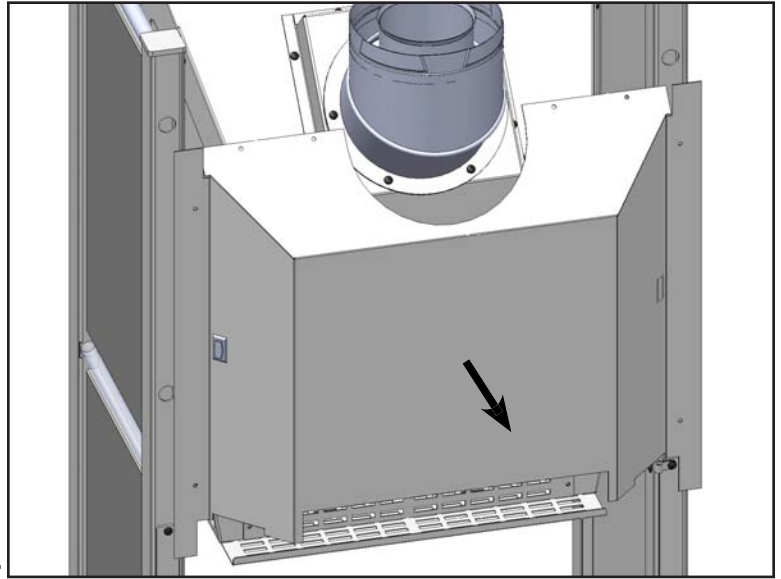

Fig.24
5. Rotate outer rear shield and place below such that the connected wires are not compromised. (Fig.24)